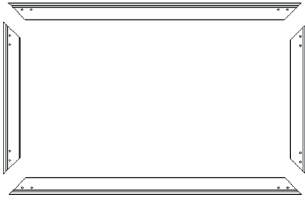

Fig. 3
1. Lay out the 4 aluminium struts on a soft surface (2x horizontal & 2x vertical) parallel to each other in a rectangle (Fig. 3). Push two corner connectors into each end of a horizontal frame piece and attach the two vertical frame pieces onto it (Fig. 4, 5 and 6).